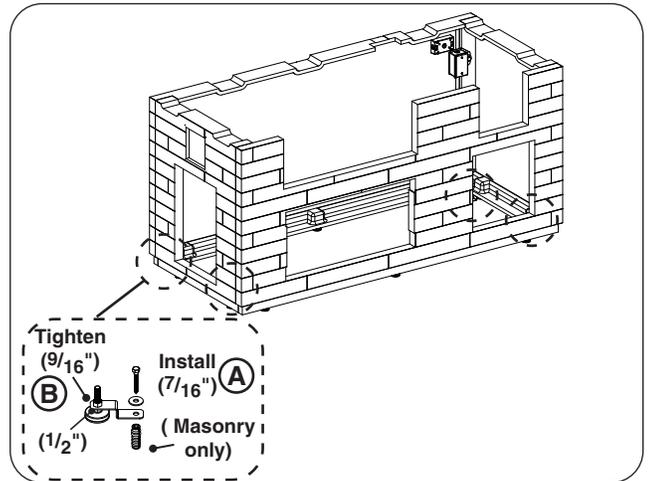

Fig. 9-1 Mount island
1. Secure the island to the floor using the 4 pre-installed mounting brackets. Use a  $\frac{7}{16}$ " open end wrench and the supplied mounting hardware as appropriate. See Fig. 9-1, A.
Finish by tightening down the brackets. Hold a leveler in place (below bracket) with a  $\frac{1}{2}$ " open end wrench, and tighten the nut (above bracket) using a  $\frac{9}{16}$ " open end wrench. See Fig. 9-1, B.